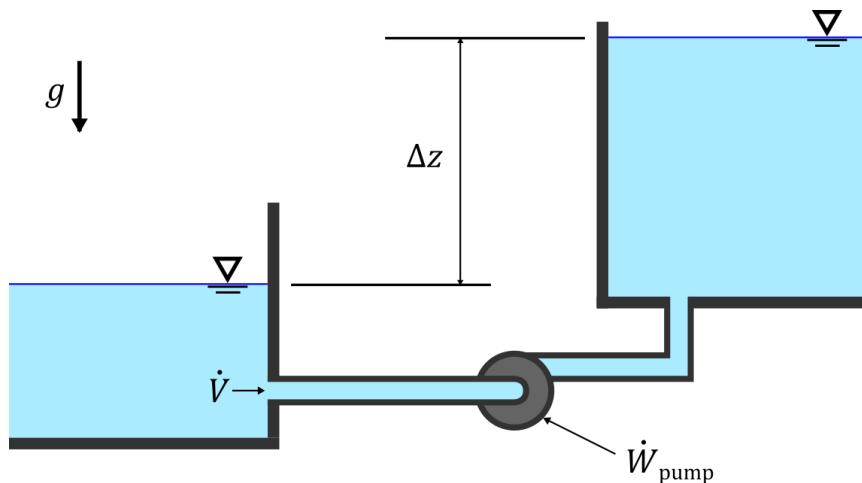

Figure Q3
3. Figure Q3 shows two large water ($\rho = 1000 \text{ kg m}^{-3}$) reservoirs with an elevation difference of $\Delta z = 45 \text{ m}$. It is desired to deliver the water from the lower reservoir to the higher reservoir using a pump as shown. The pump has a shaft input power of 40 kW. Gravitational acceleration is $g = 9.81 \text{ m s}^{-2}$.